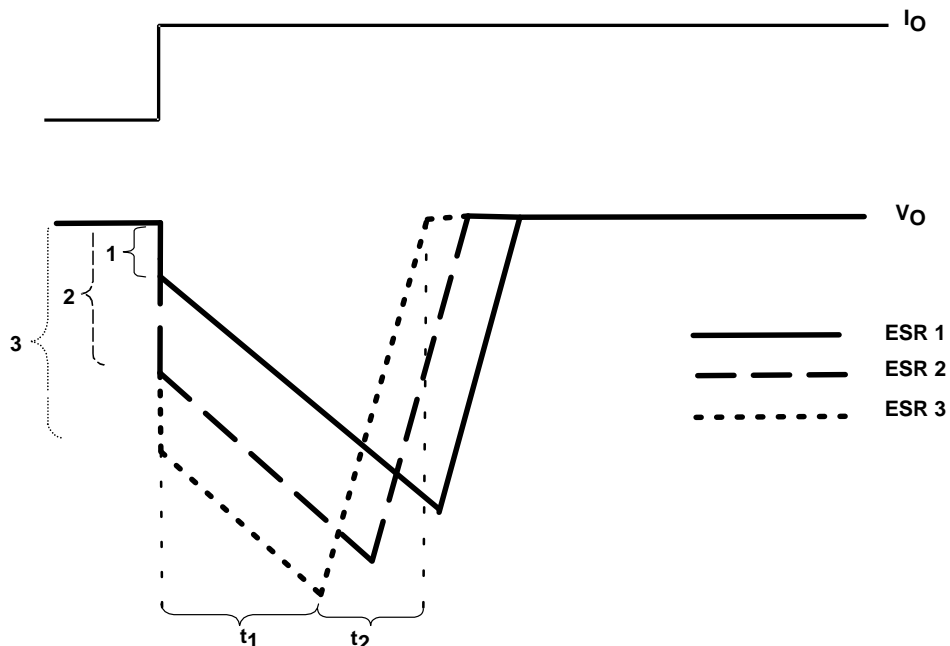

Figure 23. Correlation of Different ESRs and Their Influence to the Regulation of  $V_O$  at a Load Step From Low-to-High Output Current
- The LDO is not able to supply the sudden current need due to its response time ( $t_1$  in Figure 23). Therefore, capacitor  $C_O$  provides the current for the new load condition (dashed arrow).  $C_O$  now acts like a battery with an internal resistance, ESR. Depending on the current demand at the output, a voltage drop will occur at  $R_{ESR}$ . This voltage is shown as  $V_{ESR}$  in Figure 22.
- When  $C_O$  is conducting current to the load, initial voltage at the load will be  $V_O = V(C_O) - V_{ESR}$ . Due to the discharge of  $C_O$ , the output voltage  $V_O$  will drop continuously until the response time  $t_1$  of the LDO is reached and the LDO will resume supplying the load. From this point, the output voltage starts rising again until it reaches the regulated voltage. This period is shown as  $t_2$  in Figure 23.
Figure 23 also shows the impact of different ESRs on the output voltage. The left brackets show different levels of ESRs where number 1 displays the lowest and number 3 displays the highest ESR.